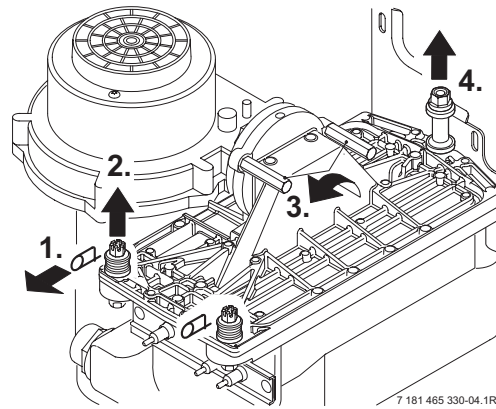

Fig. 41
- ▶ Remove the clips (1) and unscrew the two bolts (2). Refer to fig. 41.
- ▶ Unscrew and remove the two hexagon screws securing the fan (3).
- ▶ Slacken fully the rear securing bolt (4).